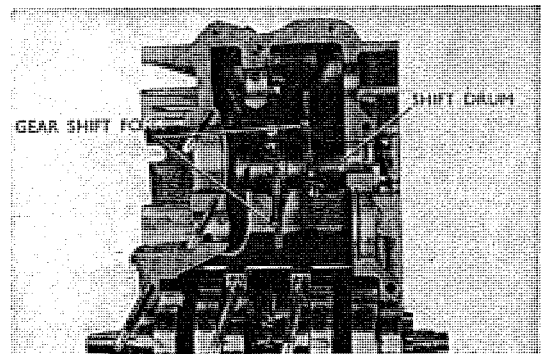

Fig. 3.127 Division of gear shift fork
1. Insert the gear shift drum at the right side of the upper crankcase and assemble the gear shift fork in the crankcase with attention directed to the division. (Refer to Fig. 3.127)